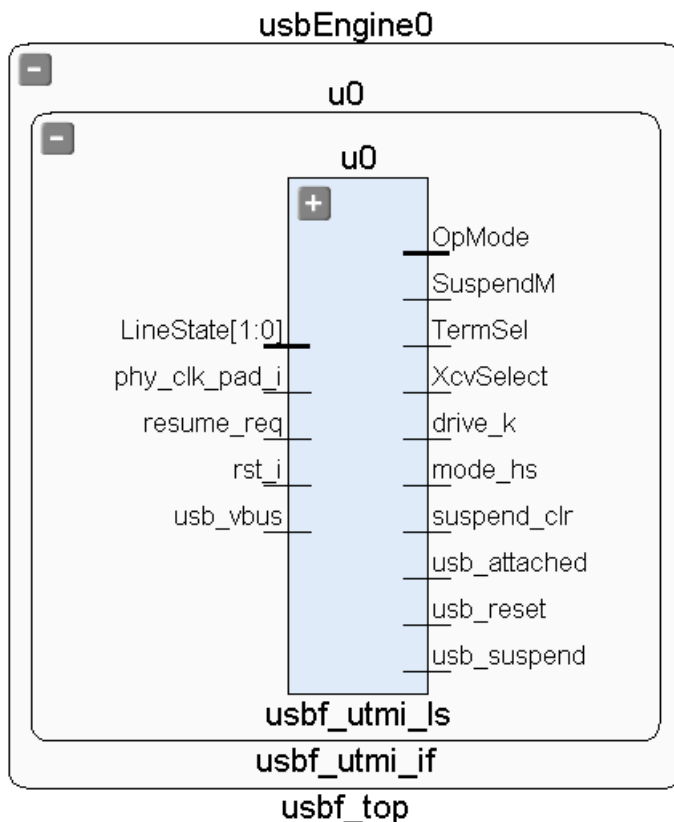

Figure 4-49: Viewing Hierarchy in the Schematic
The Schematic view displays the selected logic instances or nets. If only one instance is selected, a schematic symbol for that module is displayed as shown in Figure 4-49, page 152.
- **Expand all logic inside selected instance** — Expands a hierarchical module from the symbol view to the logic view. Hierarchical modules can also be expanded directly from the schematic by clicking on the '+' icon on the schematic symbol, as shown in as shown in Figure 4-49.
- **Collapse all logic inside selected instance** — Collapses a hierarchical module from the logic view to the symbol view. An expanded hierarchical block can also be collapsed directly from the schematic by clicking on the '-' icon on the hierarchical block, as shown in Figure 4-49.
- **Toggle autohide pins for selected instance**— Toggle the pin display on hierarchical modules. Higher levels of the hierarchy display as concentric rectangles without pins, when a Schematic view is generated, as shown in Figure 4-49. In most cases, the lack of pins makes the Schematic view more readable, however, you can display the pins for selected instances as needed.